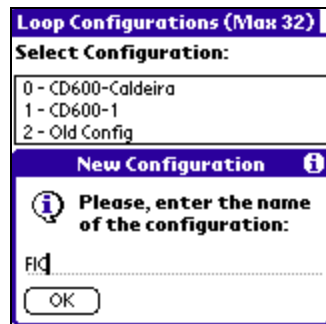

Figure 6
2. Type the name of the new configuration, for example FIC (Figure 6).